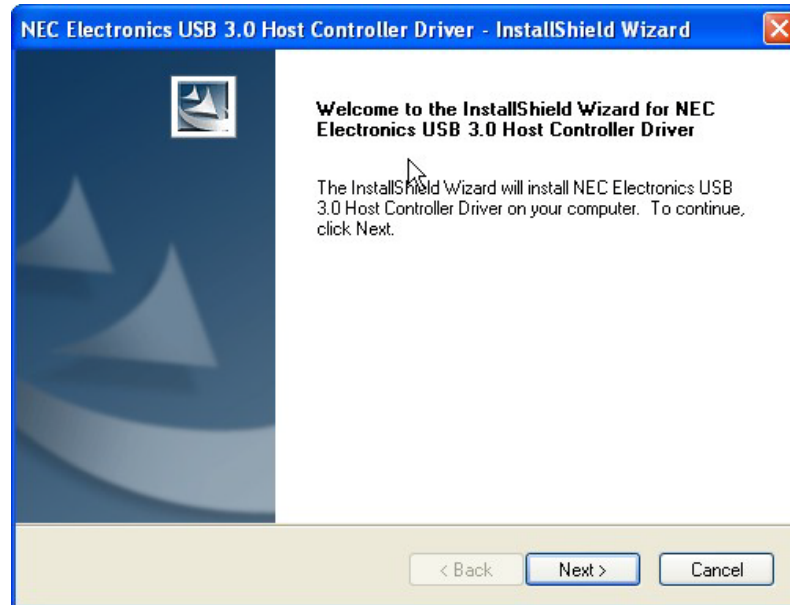

Figure 6-28: USB 3.0 Driver Welcome Screen
- Step 4: A **Welcome Screen** appears (**Figure 6-28**).